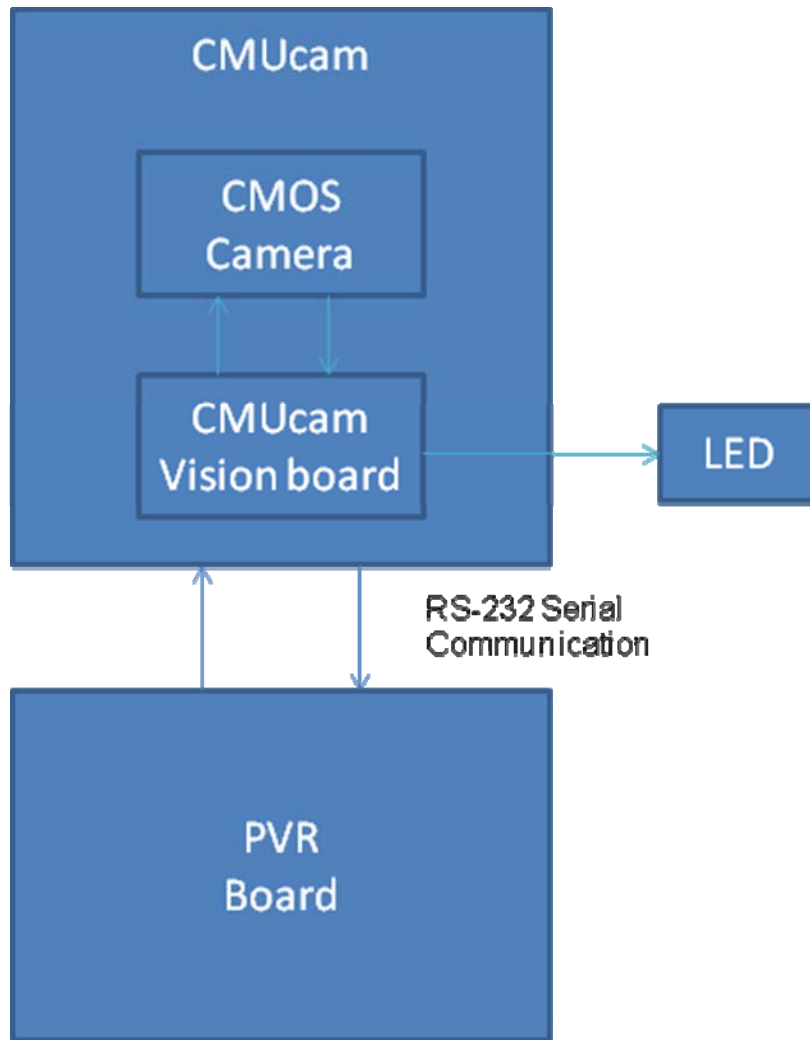

Figure 11. CMUcam Block Diagram
- CMUcam Block Diagram (Figure 11)